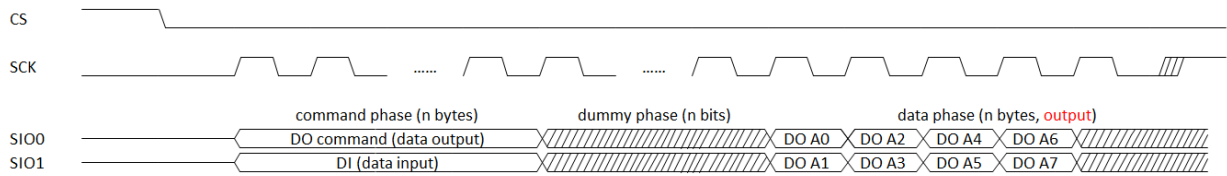
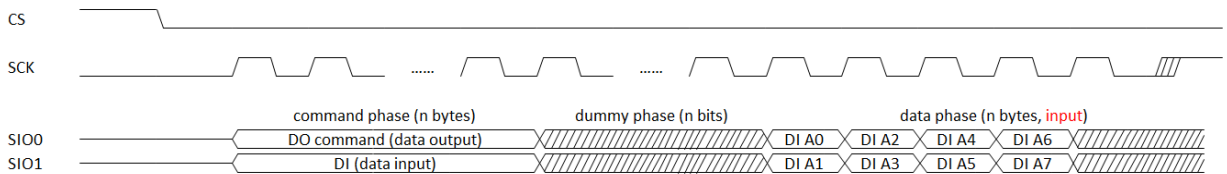

Figure 6.3-2. SPI master dual mode write data
Figure 6.3-3. SPI master dual mode read data
- SPI master dual mode. The dual mode SPI is also a 4-pin protocol. Set the register **SPIM_TYPE** to 1 to enter this mode. In dual mode, the SPI master controller only supports half duplex, and the data transmission direction is configured by register **SPIM_RW_MODE** (0: read data, 1: write data). The registers **SPIM_DUMMY_CNT**, **SPIM_COMMAND_CNT** can be activated with user configuration. In addition, **SPIM_DUMMY_CNT** and **SPIM_COMMAND_CNT** can be set to 0 to disable these features. The dual mode data transmission diagram is shown in Figure 6.3-2 and Figure 6.3-3.